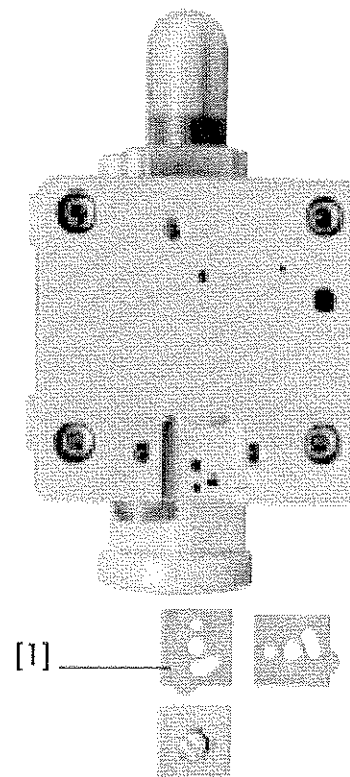

Fig. 10
3. Remove plate with flat gasket [1] after removal of a filister head screw (Fig. 10).